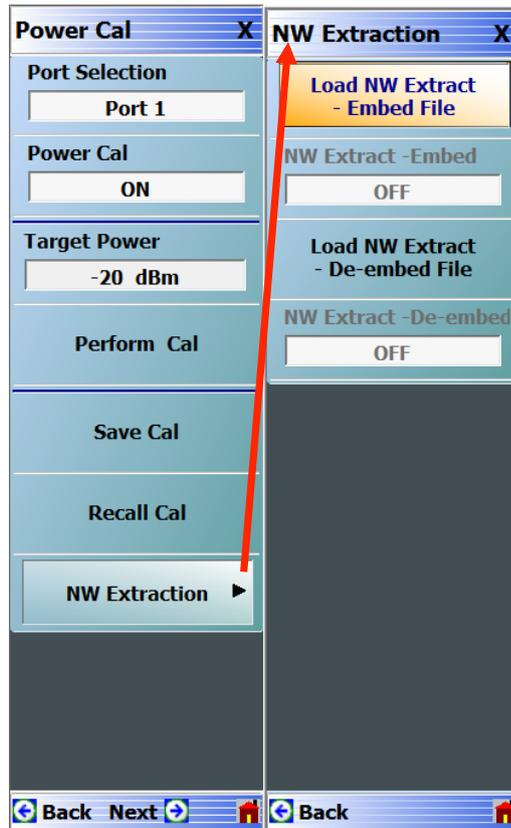

Figure 2. The user power calibration menu and the corresponding network extraction submenu are shown here.
The power calibration reference planes can be moved using the power calibration network extraction (NE) tools shown in the user interface menus (Figure 2). This NW Extraction sublevel becomes available when a power calibration exists and allows .s2p files (describing adapters and probes) to be embedded or de-embedded into the power calibration coefficients.